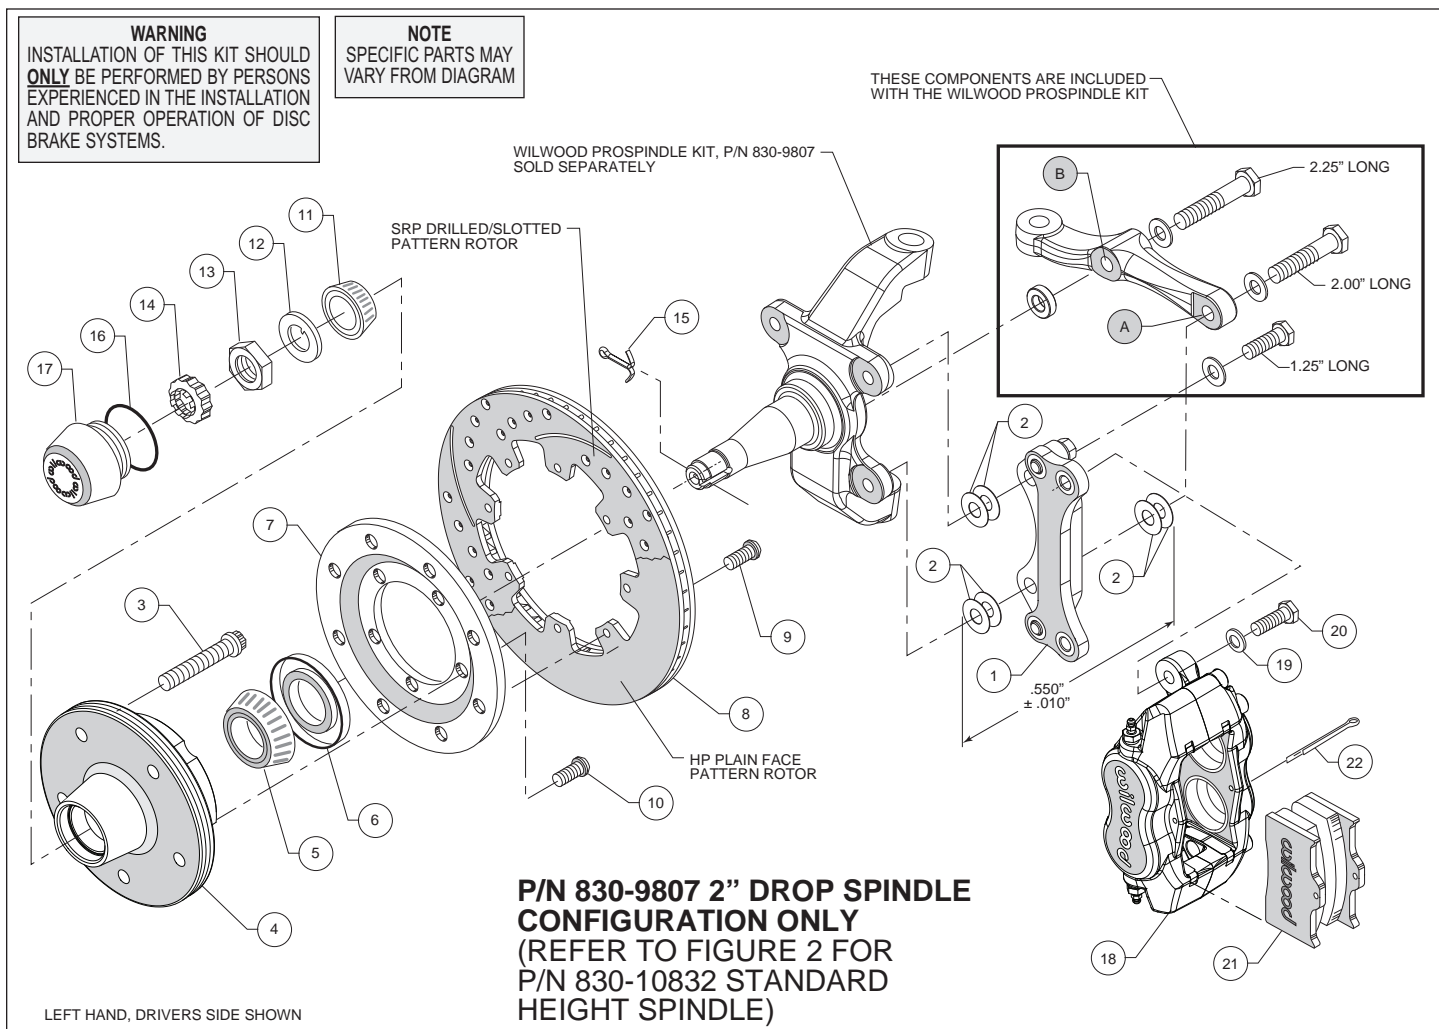

Figure 1. Installation Configuration for Drop Spindle, P/N 830-9807
Assembly Instructions (numbers in parenthesis refer to the parts list and Figures 1 and 2 on the preceding pages):
•**NOTE:** Each Wilwood ProSpindle kit includes bolts, washers, and a spacer to mount the steering arm and caliper bracket. The various bolts are identified by length in the following instructions and in Figures 1 and 2.
- Orient the bracket as shown in Figure 1 and Photo 1. Install at top spindle hole using 1.25" long bolt and .06" thick washer (from ProSpindle kit), and two .016" thick shims (2) between the bracket and spindle, Figure 1.
- Orient the steering arm, and identify the hole marked 'A', as shown in Figure 1. Install at bottom spindle hole using 2.00" long bolt, .06" thick washer (from ProSpindle kit), two .016" thick shims (2) between the steering arm and the bracket, and another two more .016" thick shims (2) between the bracket and spindle, Figure 1. The bracket is located between the steering arm and spindle. **NOTE:** *The bracket and shim washers must add up to a total thickness of .550" ± .010", Figure 1.*
- Finish attaching the steering arm through the hole marked 'B', as shown in Figure 1. Install using 2.25" long bolt, .06" thick washer, and .25" thick spacer (all from ProSpindle kit), Figure 1.
- Pack the large inner bearing cone (5) with high temperature disc brake bearing grease (available from your local auto parts store) and install into the backside of the hub (4), Photo 4.
- Install the grease seal (6) by pressing into the backside of the hub (4), flush with the end of the hub, Photo 4.
- Orient the rotor (8) and the rotor adapter (7) as shown in Figure 1 or 2 and Photo 5. Attach the rotor to the adapter using bolts (9). Using an alternating sequence, apply red *Loctite*® 271 to the threads, and torque to 25 ft-lb.
- Mount the adapter/rotor assembly (7 and 8) to the hub (4) using bolts (10), as shown in Figure 1 or 2 and Photo 6. Using an alternating sequence, apply red *Loctite*® 271 to the threads, and torque to 45 ft-lb.
- Pack the small outer bearing cone (11) with high temperature disc brake bearing grease and install into front of hub (4), Photo 7. Slide the hub/rotor onto the spindle. Secure using spindle washer (12) and adjusting nut (13). Bearing adjustment: Tighten the nut while turning the hub. When there is a slight bind on the bearings, they are seated correctly. Back the nut off about 1/6 to 1/4 of a turn, or sufficiently to allow .001" to .007" end play. **WARNING:** Failure to back off adjusting nut could cause bearing to run hot and be damaged, which could cause the wheel to lock or come off. Install spindle nut retainer (14) and new cotter pin (15).
- Screw dust cap (17) into hub (4), Photo 8. Friction created by the o-ring (16) on the dust cap keeps it from unscrewing. **NOTE:** The O.D. of the existing OEM spindle washer may be larger than the I.D. of the dust cap not allowing it to seat against the hub face. Therefore, use the spindle washer (12) supplied with the kit instead of the OEM washer.
- NOTE:** Please reference the caution statement at the beginning of the assembly instructions. Mount the caliper (18) onto the caliper bracket (1) using washers (19), and bolts (20) as shown in Figure 1 or 2. Temporarily tighten the mounting bolts and view the rotor (8) through the top opening of the caliper (18). The rotor should be centered in the caliper, Photo 9. If not, proceed as follows:
- Adjust by adding or subtracting shims (2) between the bracket and the spindle. Always use the same amount of shims on each of the two bolts between bracket and spindle.
- For the lower bracket mount bolt, if a shim was added between the bracket and spindle, then a shim must be removed between the steering arm and bracket, such that the total thickness of bracket and shims remain equal to $.550 \pm .010"$, Figure 1.